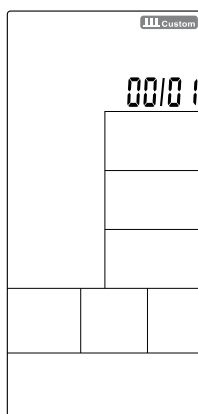

Figure 32
- ① Press INTERVAL to select INTERVAL CUSTOM, press ENTER to enter into this mode then **INTERVAL CUSTOM** 00/XX flashes to be set along with buzzer beeps 1s. Press UP/DOWN to set 00/XX within 1~99 circularly. Press ENTER to confirm along with buzzer beeps 1s then enter into next setting.(Figure 32)